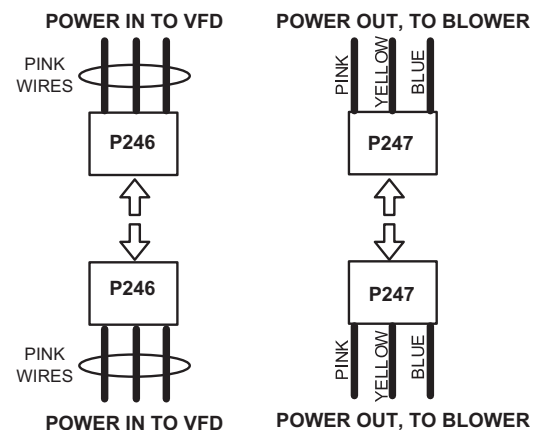

FIGURE 39
- 3 - Disconnect P246 from P246 (power in to VFD) and P247 from P247 (power out to blower). See FIGURE 39.